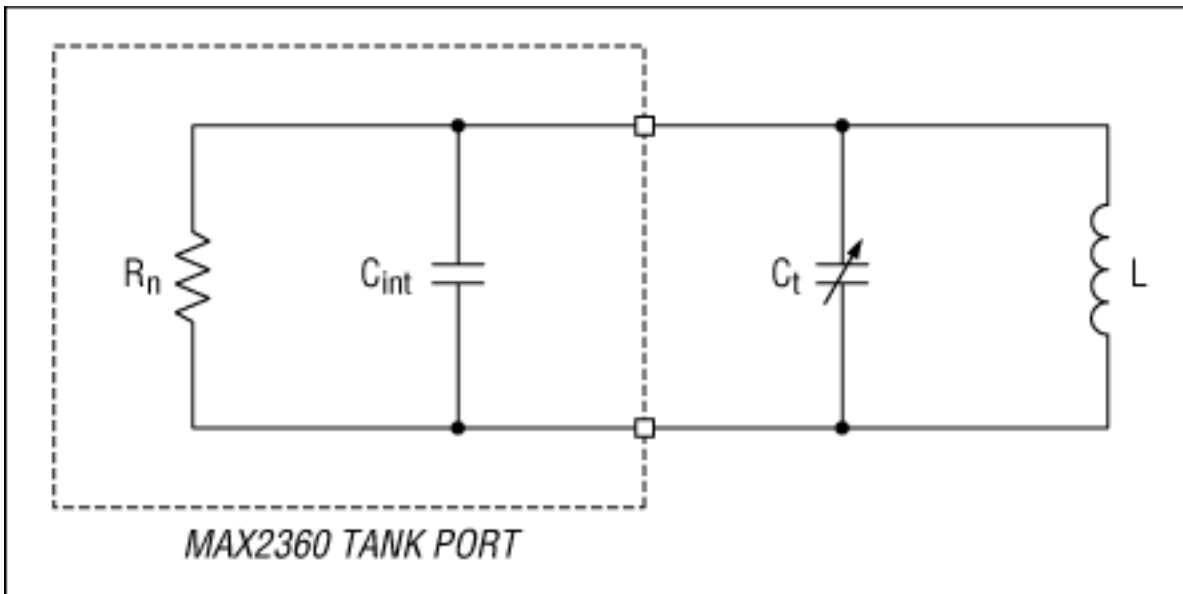
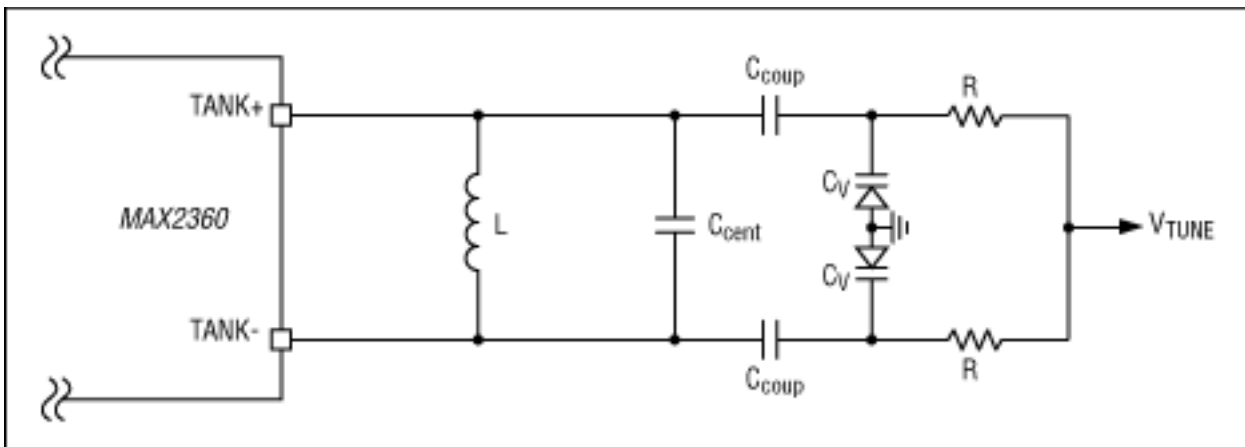

Figure 1. Basic VCO model.
Figure 2. The MAX2360 tank circuit.
Figure 2 shows the differential tank circuit used for the MAX2360 IF VCO. For analysis purposes, the tank circuit must be reduced to an equivalent simplified model. **Figure 1** depicts the basic VCO model. The frequency of oscillation can be characterized by EQN1:
Inductor L resonates with the total equivalent capacitance of the tank and the internal capacitance of the oscillator ($C_t + C_{int}$) (see Figure 1). C_{coup} provides DC block and couples the variable capacitance of the varactor diodes to the tank circuit. C_{cent} is used to center the tank's oscillation frequency to a nominal value. It is not required but adds a degree of freedom by allowing you to fine-tune resonance between inductor values. Resistors (R) provide reverse-bias voltage to the varactor diodes via the tune voltage line (V_{tune}). Their value should be chosen large enough so as not to affect loaded tank Q but small enough so that $4kTBR$ noise is negligible. The resistors' noise voltage gets modulated by K_{vco} , producing phase noise. Capacitance C_V is the variable tuning component in the tank. The capacitance of the varactor diode (C_V) is a function of reverse-bias voltage (see Appendix A for the varactor model). V_{tune} is the tuning voltage from a phase-locked loop (PLL).
Tuning gain (K_{VCO}) must be minimized for best closed-loop phase noise. Resistors in the loop filter as well as the resistors "R" (Figure 2) will produce broadband noise. Broadband thermal noise ($V_n = \sqrt{4kTB R}$) will modulate the VCO by K_{VCO} , which is measured in MHz/V. There are two ways to minimize K_{VCO} . One is to minimize the frequency range over which the VCO must tune. The second way is to maximize the tuning voltage available. To minimize the frequency range over which the VCO must tune, tight tolerance components must be used, as will be shown. To maximize tuning voltage, a charge pump with a large compliance range is needed. This is usually accomplished by using a larger V_{CC} . The compliance range for the MAX2360 is 0.5V to $V_{CC}-0.5V$. In battery-powered applications, the compliance range is usually fixed by the battery voltage or regulator.